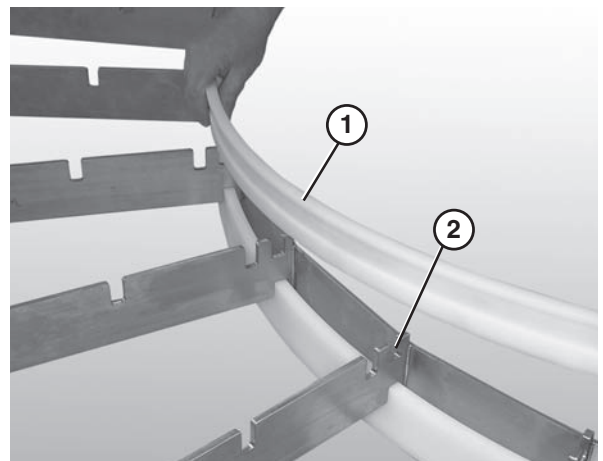

Figure 25
1. Insert the inside curve top wear strip (Figure 25, item 1) into the innermost slot (Figure 25, item 2) on the inside of the frame.